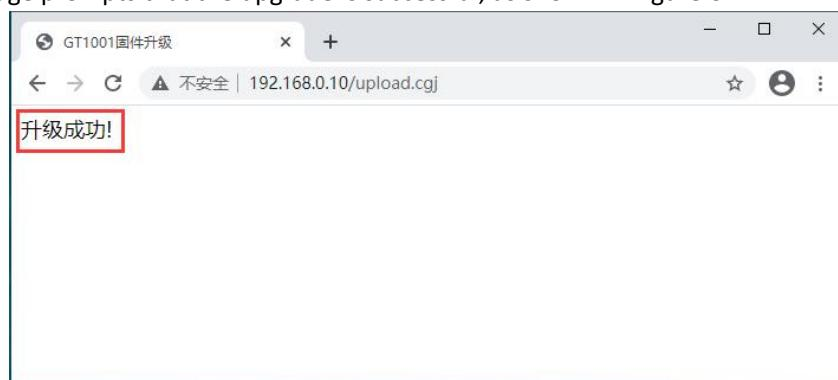

Figure 6-4 Prompt interface for successful upgrade
- (4) Click the "Select File" button to point the path to the firmware to be upgraded (scan if the latest firmware is not available QR Code Acquisition).
(5) Click the "Upgrade" button to start the firmware upgrade. During the upgrade process, RX \_ LED flashes and the upgrade is completed. Then enter the application mode, and the webpage prompts that the upgrade is successful, as shown in Figure 6-4.